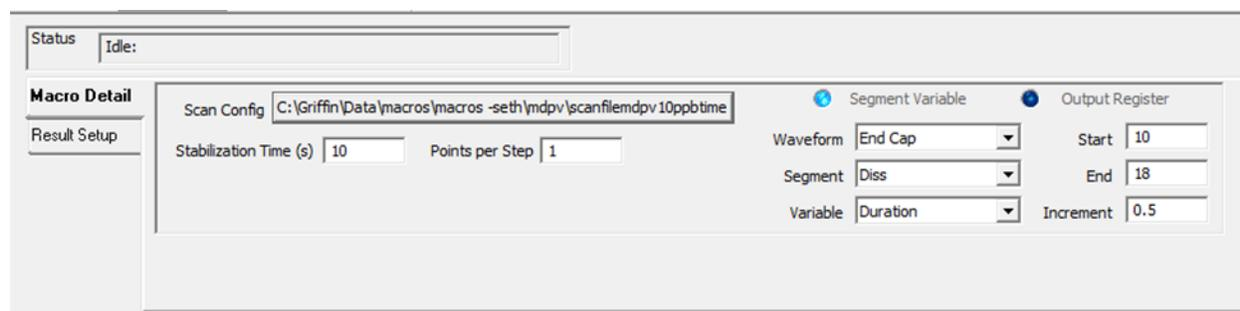

Figure 4.14 – “Macro Detail” tab
4. After loading the scan file, an individual macro parameter can be set up by accessing it from the “Variable” tab. In the “Variable” tab, “Amplitude” represents CID Voltage, “Duration” represents dissociation time, and “Frequency” is denoted as dissociation frequency. Under the “Output Register” the user can set specific starting/ending and increment values to be utilized for the variable of interest (Figure 4.14). Common ranges and increments for variables are listed below in Table 4.1.
2. Select “New” under the method option (Figure 4.14).